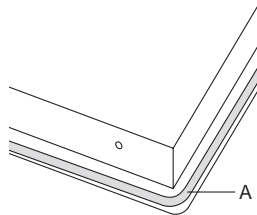

Fig. 13: Sealing strip
2. Remove the protective foil from the sealing strip (A) and apply the strip as far out as possible on the underside of the glass (see fig. 13).